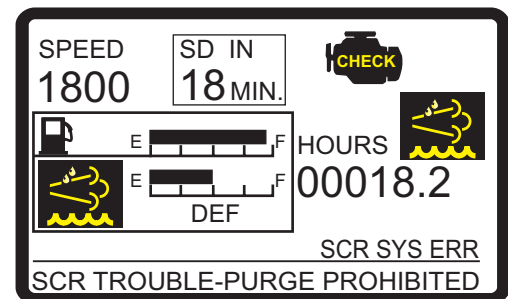

Figure 97. Escape Mode Timer
- The **Escape Mode Timer** (Figure 97) will appear on the **main** screen. This timer displays the remaining Escape Mode operation time.